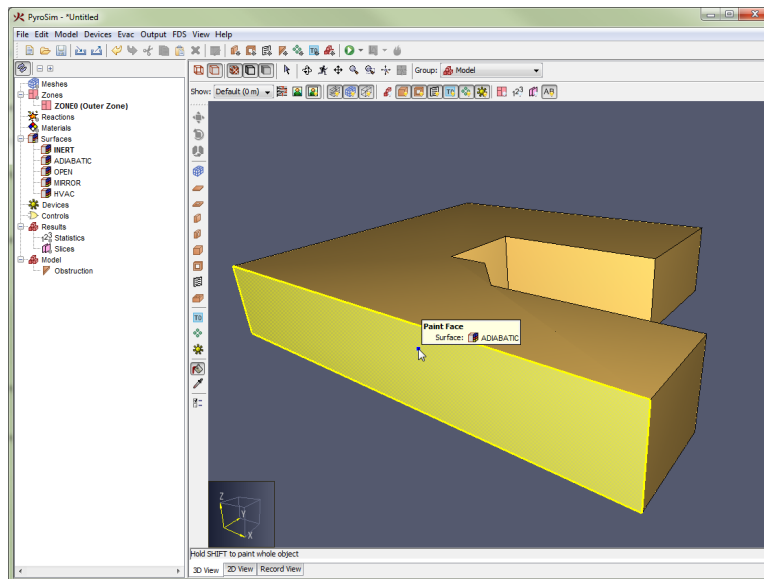

Figure 96. An obstruction face highlighted by the paint tool
2. Hover the cursor over the desired face to paint. If the face can be painted with the current surface/color, the face will highlight yellow as shown in Figure 96.